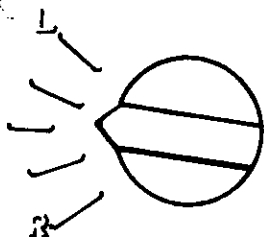

FIGURE 8-18. INITIAL START ADJUSTMENT
1. Set main power mixture to position shown in Figure 8-18.
2. Run engine at maximum throttle and normal load for ten minutes, or set main power mixture near mark between L and R as shown in Figure 8-18.
1. Run engine at open throttle for normal maximum rpm for ten minutes or set main power mixture at mark between L and R as shown in Figure 8-18.